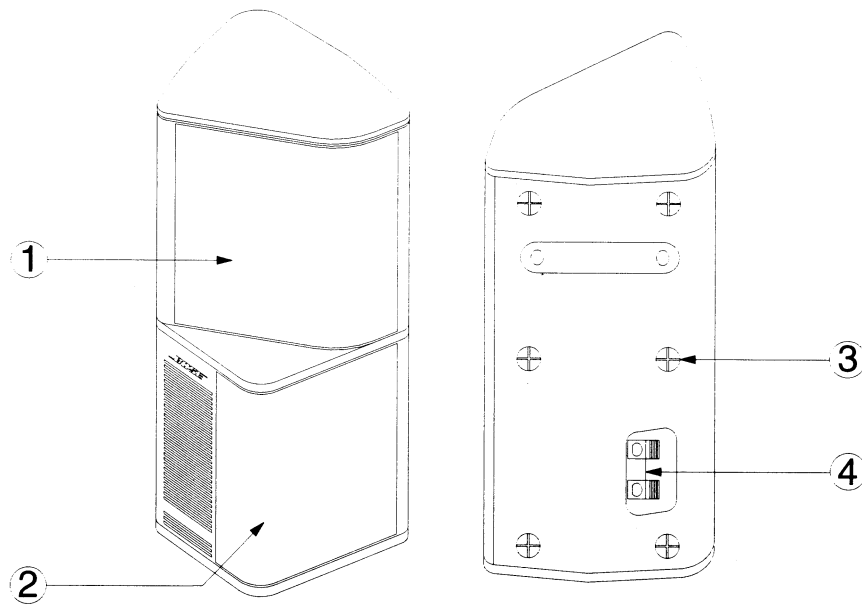

Figure 8: SE-5 Stereo Targeting Array Enclosure
SE-5 Stereo Targeting® Array Speaker Assembly Parts (Per Figure 8)
1. Part is not shown in **Figure 8**.